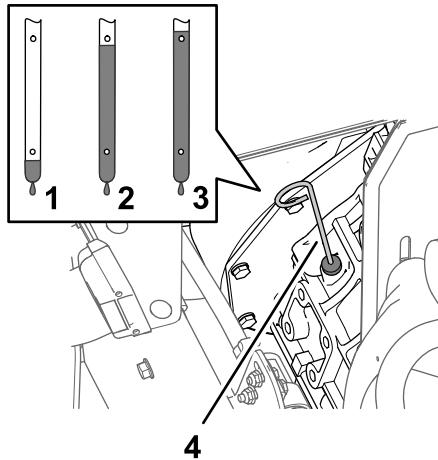

Figure 77
6. Remove the dipstick and check the oil level in the engine (Figure 77).
7. Slowly add additional specified oil to bring the oil level to the Full mark on the dipstick (Figure 77).